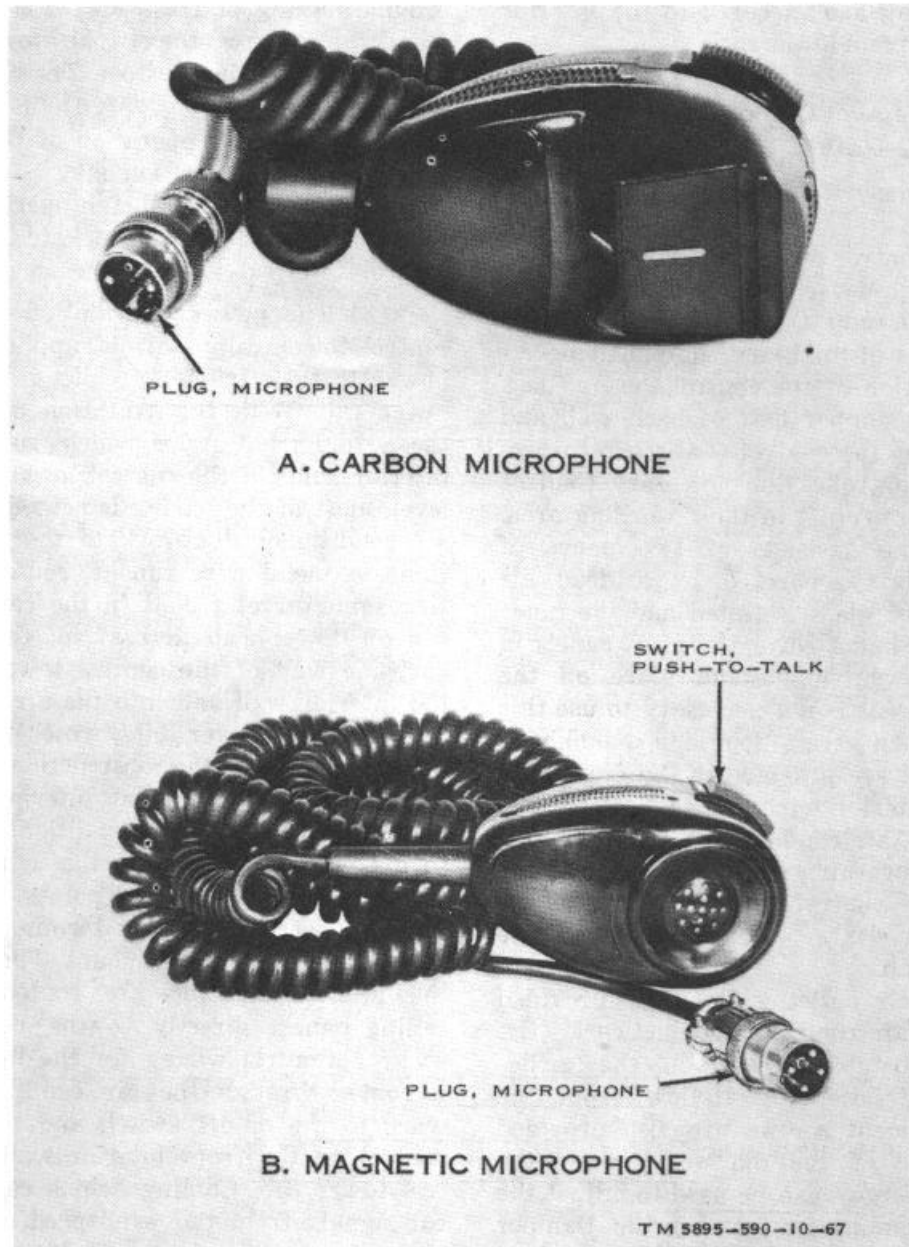

Figure 1-16. Microphone, Magnetic M-145/U and Microphone, Carbon M-144/U.
c. *Microphone, Magnetic M-145/U* (fig. 1-16). The microphone is a hand-held, magnetic type used for voice communication. The microphone includes a push-to-talk switch and a connector cord. One microphone is connected to the SB-3188/FSQ-75(V) at each of the three controller positions.
p. Panel, Protection-Power Distribution SB-3178/FSQ-75(V) (fig. 3-16 and 7, fig. 1-16). The 48-volt power combining unit mounts in 19-inch equipment rack 7. The front panel includes indicator lamps, fuses, and a switch. Other electrical components are mounted on a chassis extending to the rear of the front panel. This equipment serves to combine the outputs of several 48-volt dc power supplies to provide three isolated outputs.